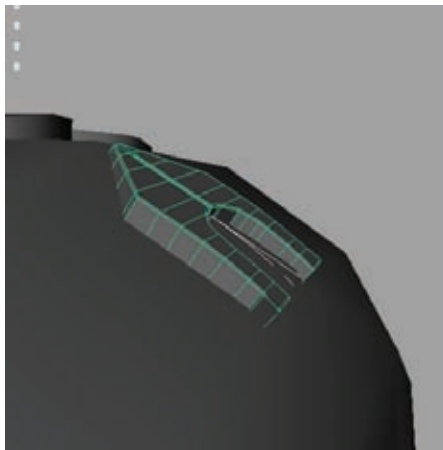

Figure 4.16
17. For this detail to go on the rounded edge of the tire, you'll need to cut in some bendable geometry that you can then adjust to follow the surface direction of the tire (Figure 4.16). You can do this by hand or by using a Bend deformer that can be found in the Animation menu set under Create Deformers → Nonlinear → Bend.